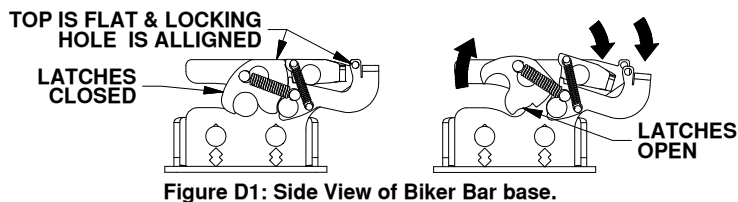

Figure D1: Side View of Biker Bar base.
1. **Latching bike to base:** With the side plate latches open, see Figure D1, and the handle up, slowly ride the bike through the base, centered between the side plates. Continue forward until both side plate latches fully close around the bar. When the latch is fully closed, the top edge of the latch will line up with the top of the side plate and the padlock holes will line up, see Figure D1.